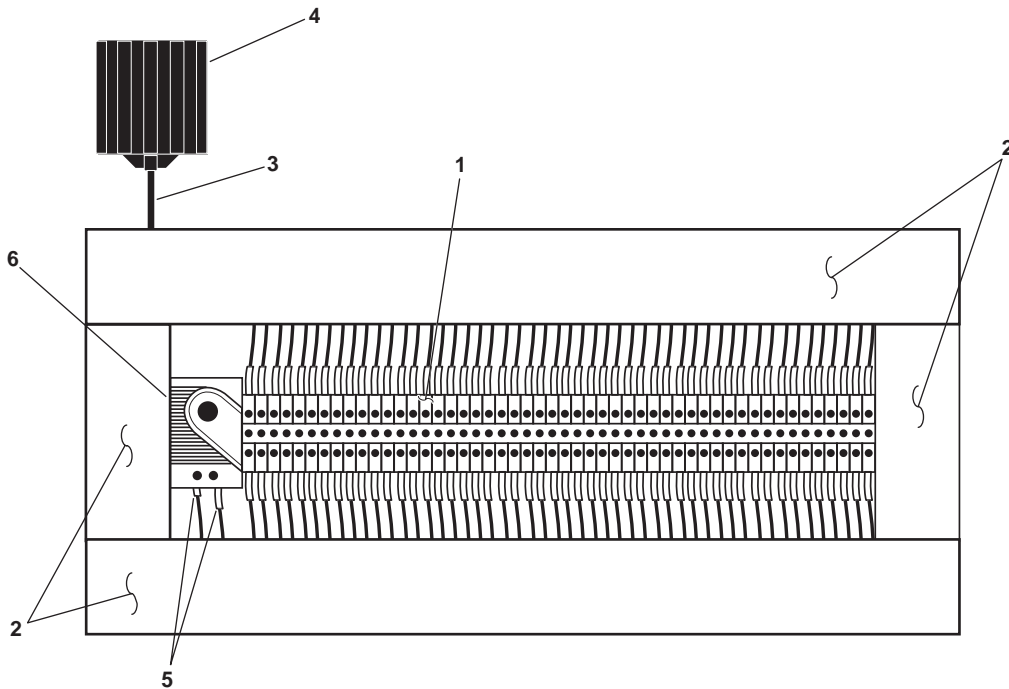

Figure 9. Aft Control Station Lower Panel Interior Components
3. Use a multimeter to check for voltage at the terminal block (figure 9, item 1). If voltage is present, ensure that the proper breaker is set to OFF, locked out, and tagged out (FM 55-502). If no voltage is present, continue with the procedure.
4. Remove the protective panels (figure 9, item 2) to gain access to the wiring.
5. Locate, label, and remove the terminal connections for the strip heater wiring (figure 9, item 3).
6. Push up to unsnap, and remove the strip heater (figure 9, item 4) from the enclosure.
1. Install the strip heater (figure 9, item 4) in the enclosure by placing it on the bracket and sliding it down until it snaps into place.
2. Install the strip heater wiring (figure 9, item 3) and the proper terminal connections using the labels from step 3 of Removal as a guide. Remove the labels.
4. Label and disconnect the wiring (figure 9, item 5) from the thermostat (figure 9, item 6).
5. Push up to unsnap, and remove the thermostat (figure 9, item 6) from the enclosure.
1. Install the thermostat (figure 9, item 6) in the enclosure by placing it on the bracket and sliding it down until it snaps into place.
2. Connect the wiring (figure 9, item 5) to the thermostat (figure 9, item 6) using the labels from step 2 of Removal as a guide. Remove the labels.